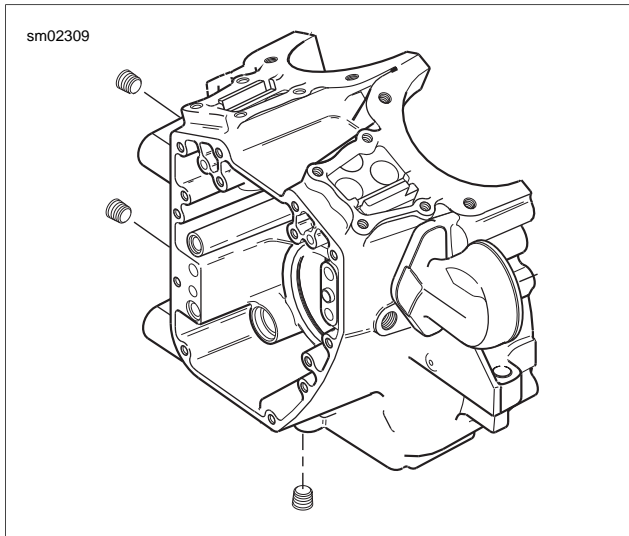

Figure 3-144. Pipe Plugs
1. See Figure 3-144. Turn pipe plugs counterclockwise until free.